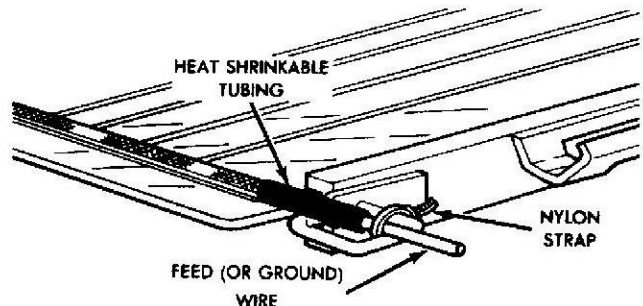

Fig. 3 Tailgate Glass With Defogger Wire In Position
- (7) Solder feed or ground wire(s) to braided strap keeping joint as small as possible. Be sure solder joint is as close as possible to glass.
- (8) Slide heat shrinkable tubing over the solder joint(s) (see fig. 3).